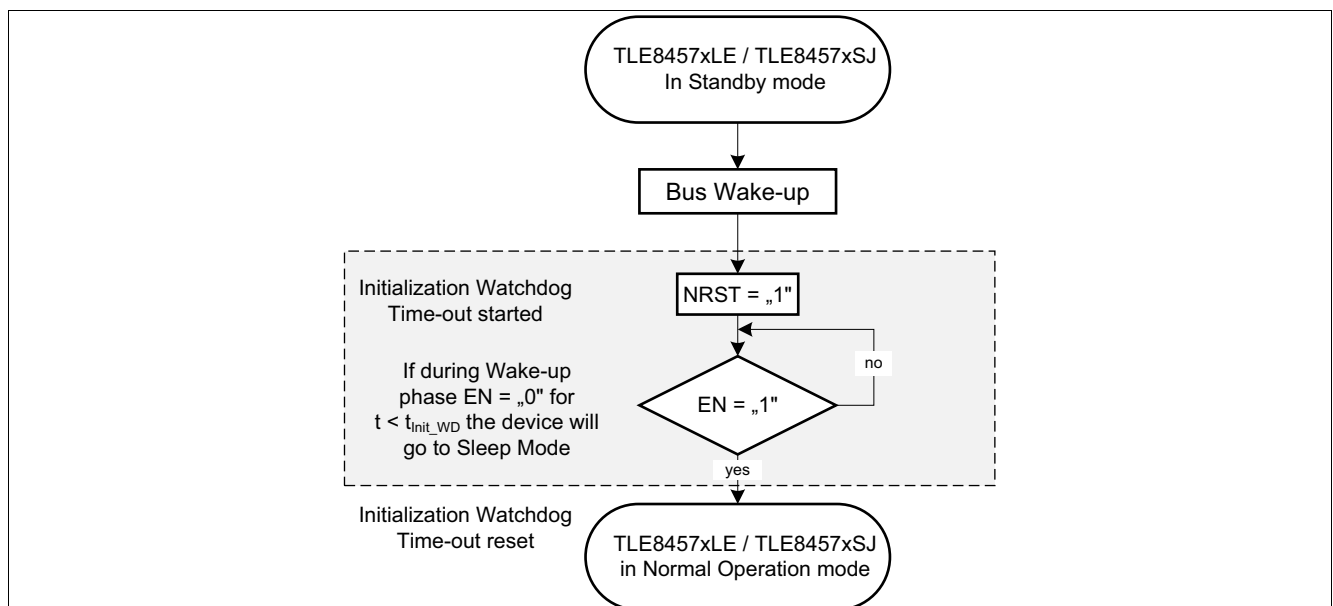

Figure 25 Power-up sequence after a bus wake-up event in Stand-by Mode
- a wake-up event in Stand-by Mode (see Figure 25)